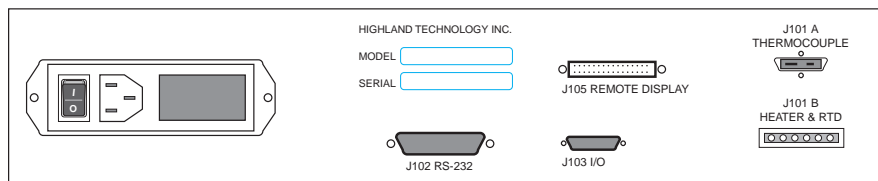
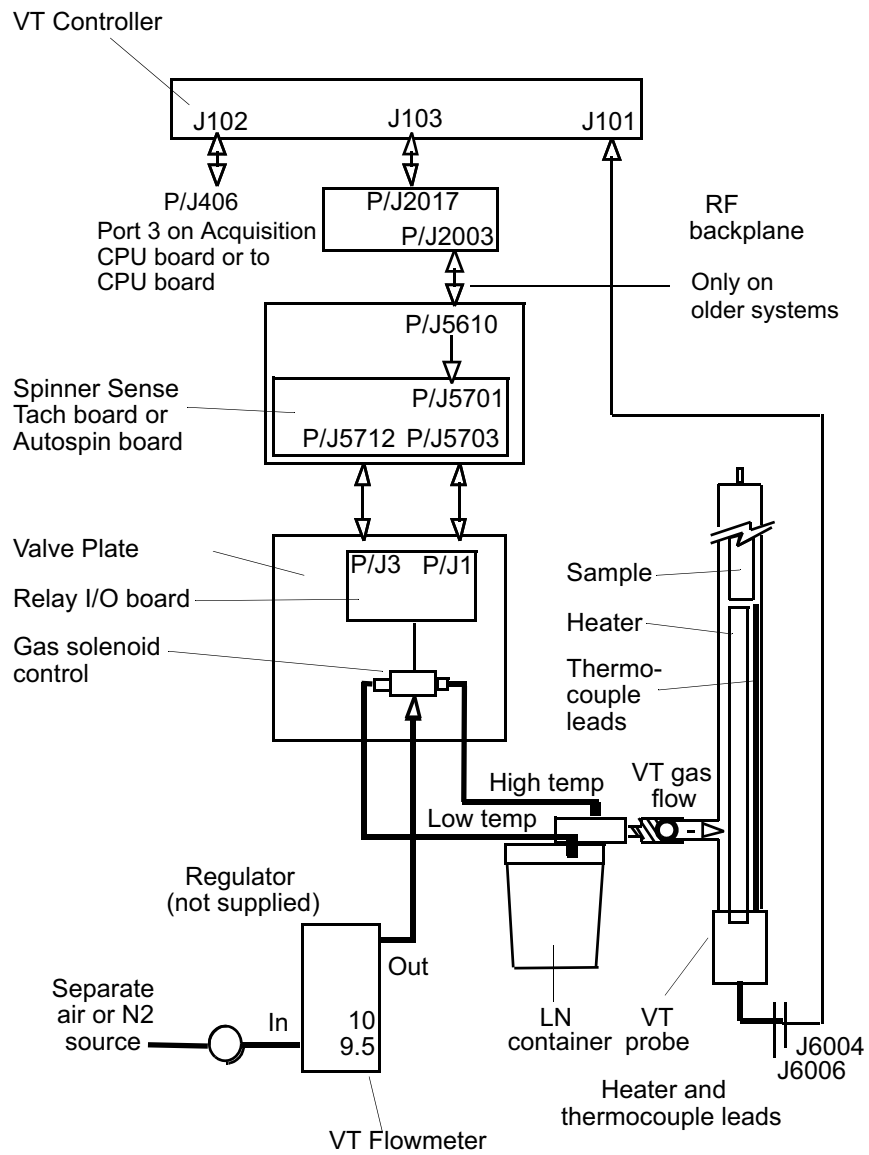

Figure 1. Variable Temperature Controller, Front and Rear View
Figure 5. Variable Temperature Controller System Interconnect
The VT controller is designed to control the sample temperature within the probe. The controller, shown in Figure 1, contains a heater enable switch and a control panel with an 8-character display and status LEDs on the front panel. The rear panel contains the ac power connector and switch, a fuse holder, and connectors J101A THERMOCOUPLE, J101B HEATER & RTD, J102 RS-232, J103 I/O, and J105 REMOTE DISPLAY. Inside the fuse cover is the line voltage selector switch. (See “Appendix C: RS-232 Terminal Access of VT Controller,” on page 15, for controller operation from an RS-232 terminal.)
Refer to the interconnect diagram in Figure 5 during the following steps.
4. Connect cable (00-966716-00) to J103 on the rear of the VT controller (see Figure 1). Attach the other end of this cable to P/J2017 on the rf backplane (see Figure 5).